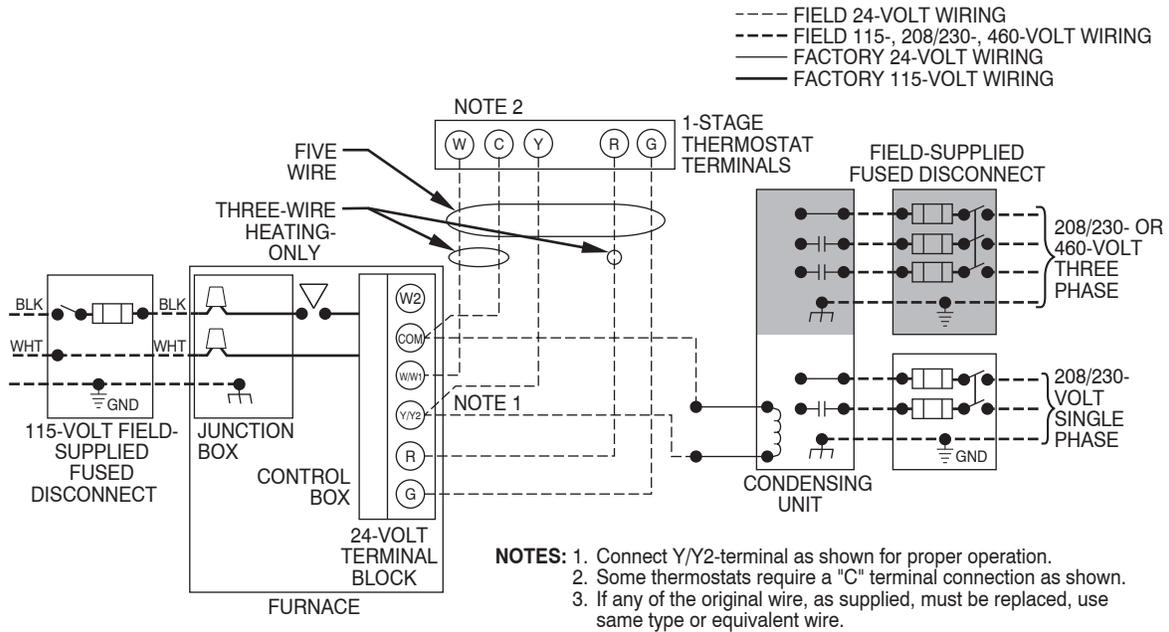

Fig. 25 - Field Wiring Diagram
5. Connect line voltage leads as shown in Fig. 25.
Make field 24-v connections at the 24-v terminal strip. (See Fig. 25 - 30.) Connect terminal Y/Y2 as shown in Fig. 27-30 for proper cooling operation. Use only AWG No. 18, color-coded, copper thermostat wire.